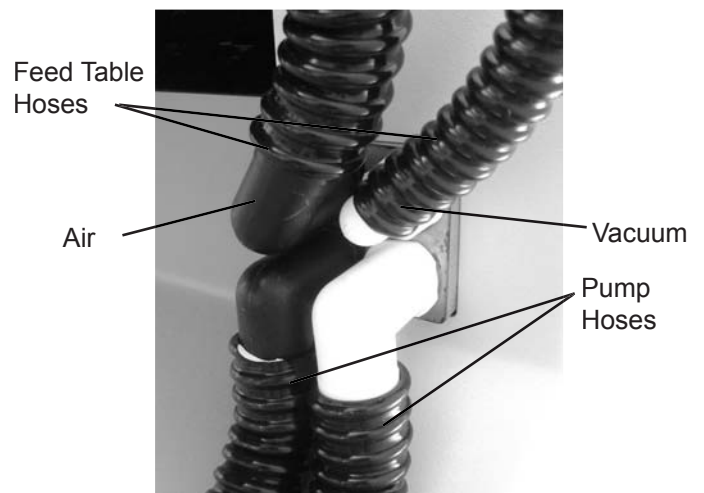

Fig. 11
5. Connect the feed table hoses. Push the fittings into the holes in the manifold block (Fig. 11).